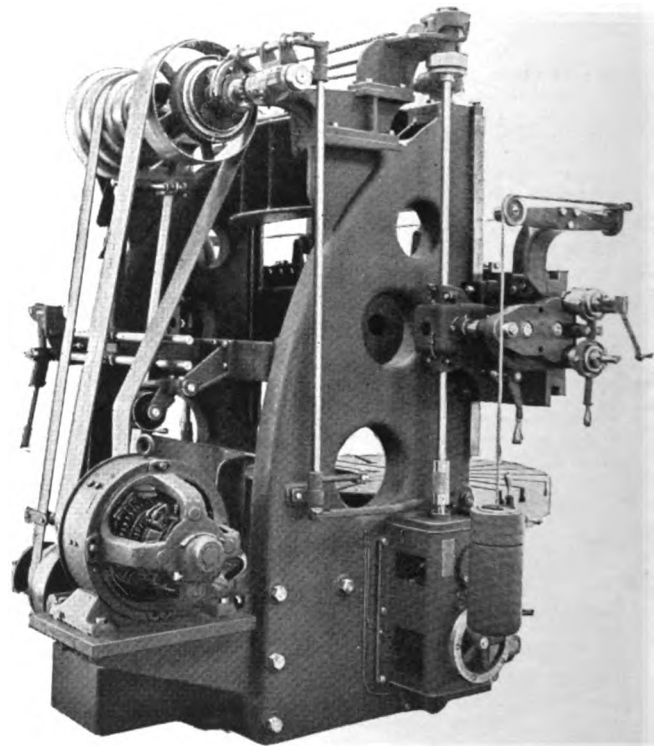

FIG. 17. REAR VIEW OF COLBURN VERTICAL BORING AND TURNING MILL, SHOWING SIMPLICITY OF THE MOTOR DRIVE
**MOTOR DRIVE**—Any Colburn mill can be arranged for constant speed motor drive; the motor, either alternating or direct current, is mounted on a special bracket bolted to the rear of the machine. The motor is belted to a friction clutch pulley on the countershaft, slack being taken up by an idler pulley. Constant speed motor drive gives high efficiency under all conditions. Simplicity of control reduces operating and up-keep cost. Fig. 17 shows a typical motor installation. These motors are recommended for double head mills; 42, 48 and 54 in. (1 067; 1 219 and 1 372 mm.), 10 h.p.; 60 and 72 in. (1 524 and 1 829 mm.), 15 h.p. All to run approximately 1 200 r.p.m.